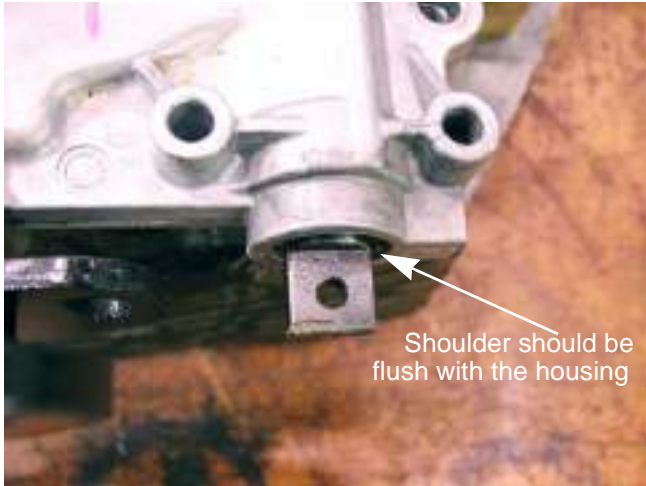

Figure 6B.74
- 22a. Turn the input shaft until the steering rack has moved all the way to the left. The right shoulder should be flush with the housing. See Figure 6B.74.